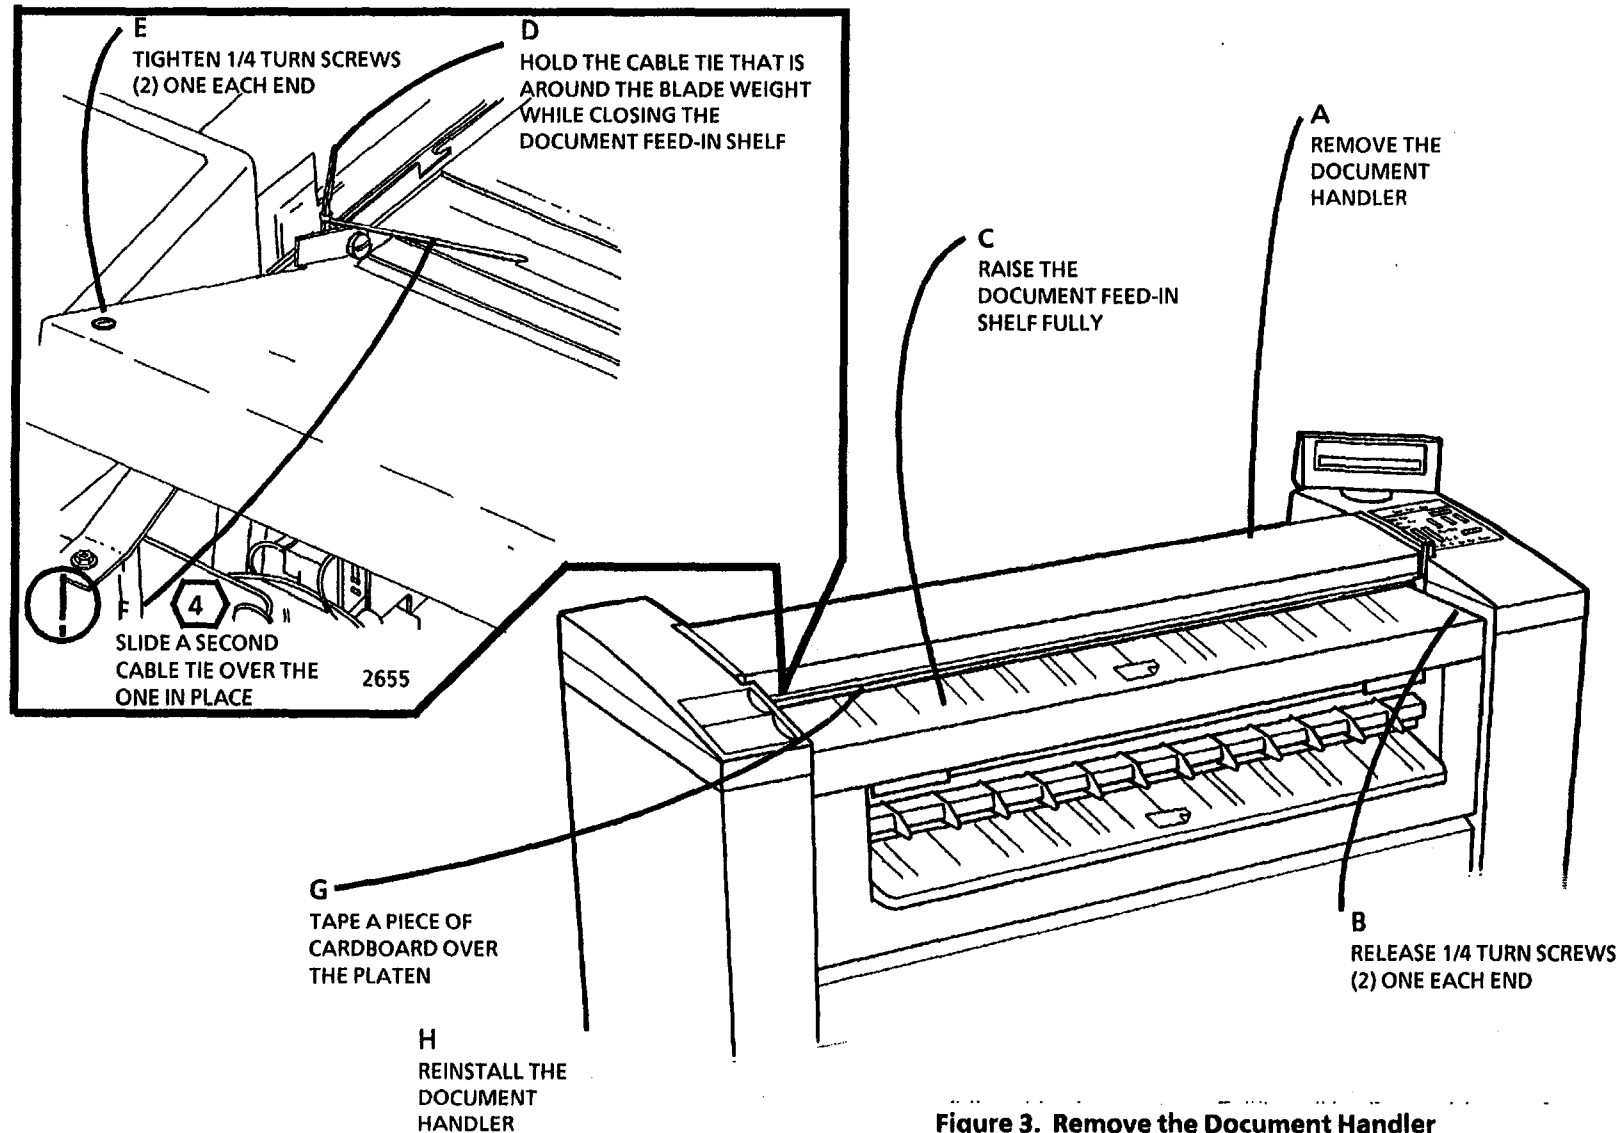

Figure 3. Remove the Document Handler
9. (Figure 3): Secure the Cleaning Blade Weight and install the Platen packaging.